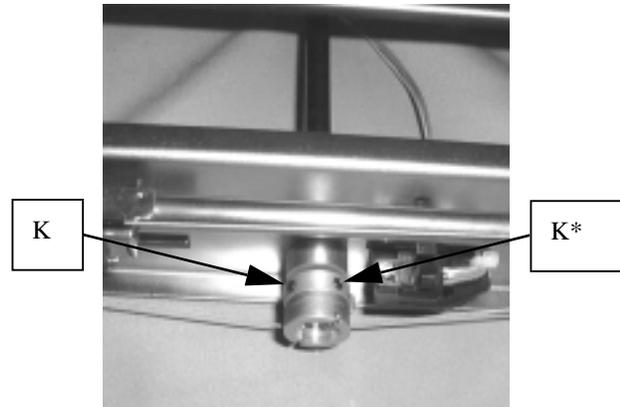
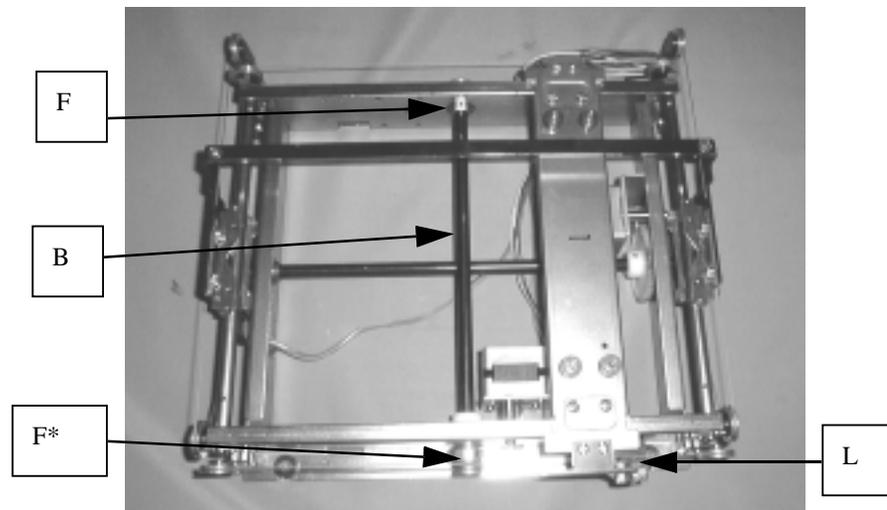

FIGURE 16-3
FIGURE 16-6
6. Draw pulley (F) on the sensor (L) side shown in Fig.16-6 after loosening socket screws (K)(K*). (K screw is a WP screw.) Fig.16-3.
10. Set the opposite cut (P*) to meet the cut (P) of the pulley as shown in Fig.16-6, and tighten socket screws (K)(K*), so that the concaved face of pulley (F*) and shaft end face (B) are positioned face to face.